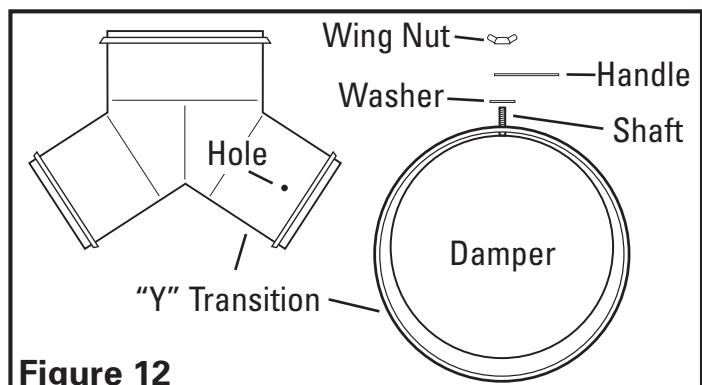

Figure 12
3. Insert the shaft of the damper into the hole drilled in step 2. Place the washer, handle, then wing nut onto the shaft (Figure 12).